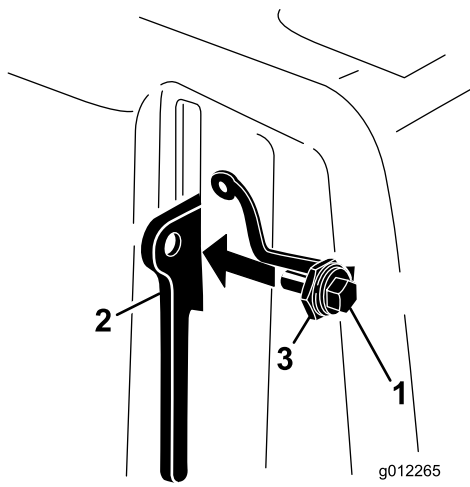

Figure 10
3. Thread the bolt into the latch lever (Figure 10).